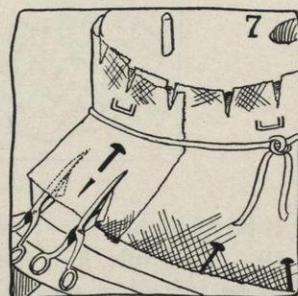

FIG. 7.
- (2) Cut the straw, so that $\frac{1}{2}$ inch extends beyond the pin on each part of the lapped straw (see Figure 7).